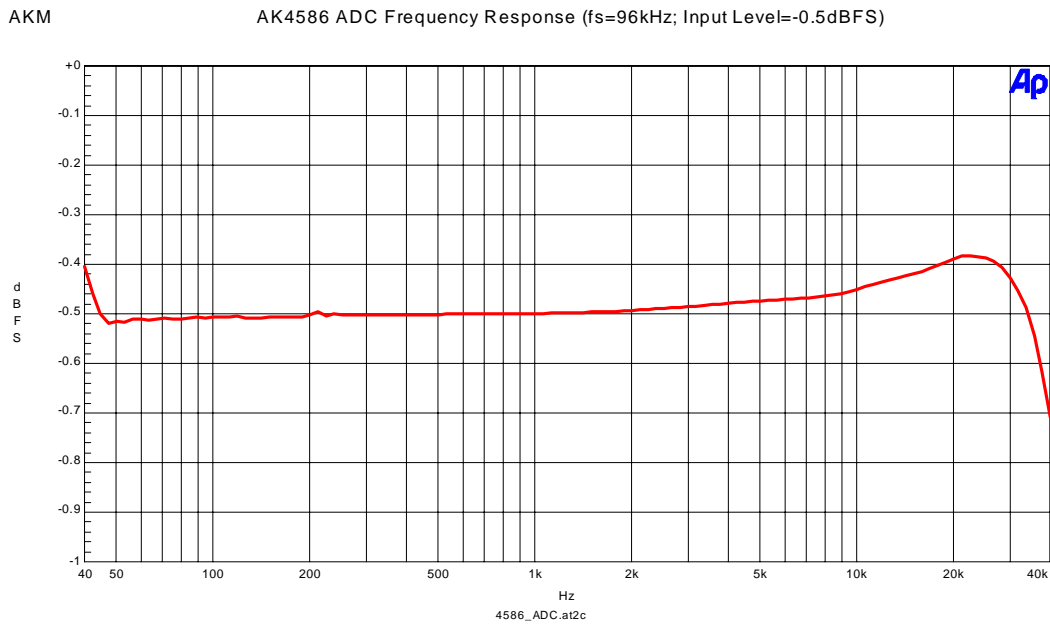

Figure 2-7. Frequency Response (Input Level=-0.5dBFS)
- Figure 2-7. Frequency Response (Input Level=-0.5dBFS)